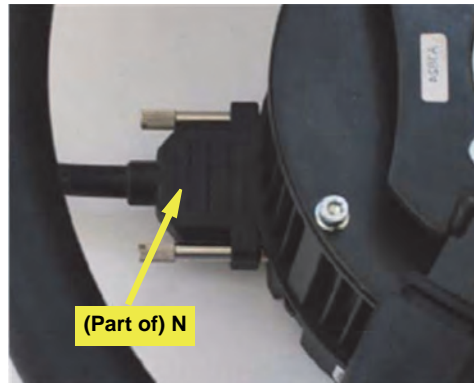

Figure 6b: Junction box comms cable connected to steering wheel assembly
- c. Clip the junction box **N** into place on its bracket **O** (neither shown) then connect **N**’s 15-pin connector cable to the communications port on the steering wheel assembly (Figure 6b). Use clip **Q** suitably (not shown).